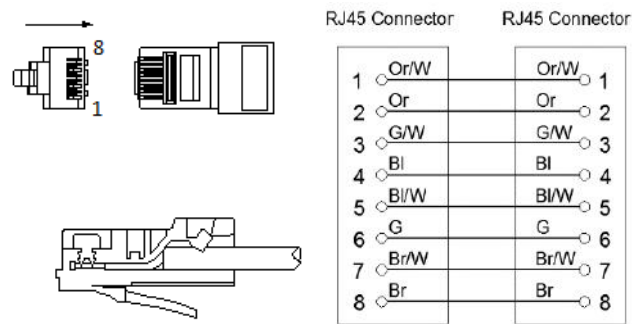

Figure 23 Network Cable Type B
**i** NOTE: The communication cable is in type B, see Figure 23. Leave the power cables and communication cables hang on the outside. Leave the device aside.